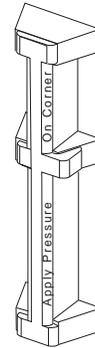

Figure 8-5 Pressure Application Points
4. Immediately place the shim back onto the tube guide using the tape as a handling aid. Apply finger pressure to the corner of the shim at a 45° angle as indicated in Figure 8-5. Apply pressure at the ends, as well as, at the middle of the shim. The tape acts as a barrier preventing adhesive from contacting the fingers.